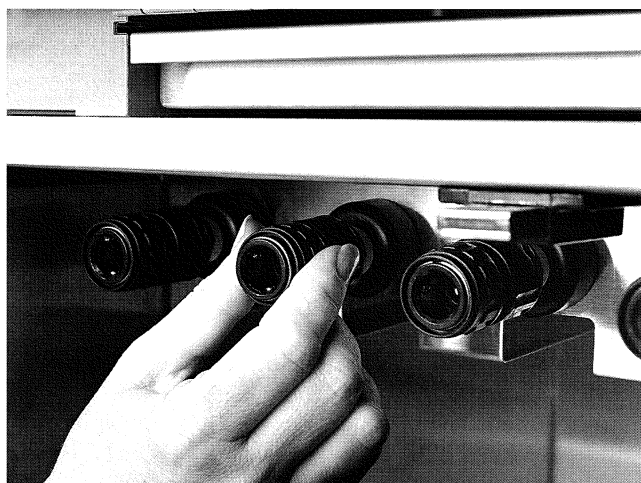

Figure 2-3
2. The reagent bottles are connected into the instrument through “quick-release” connectors that enable the bottles to be securely connected or removed with one hand. A slip ring on the instrument side of the connector is pushed back while the nozzle on the bottle is pushed into or pulled from the connection (Figure 2-3).